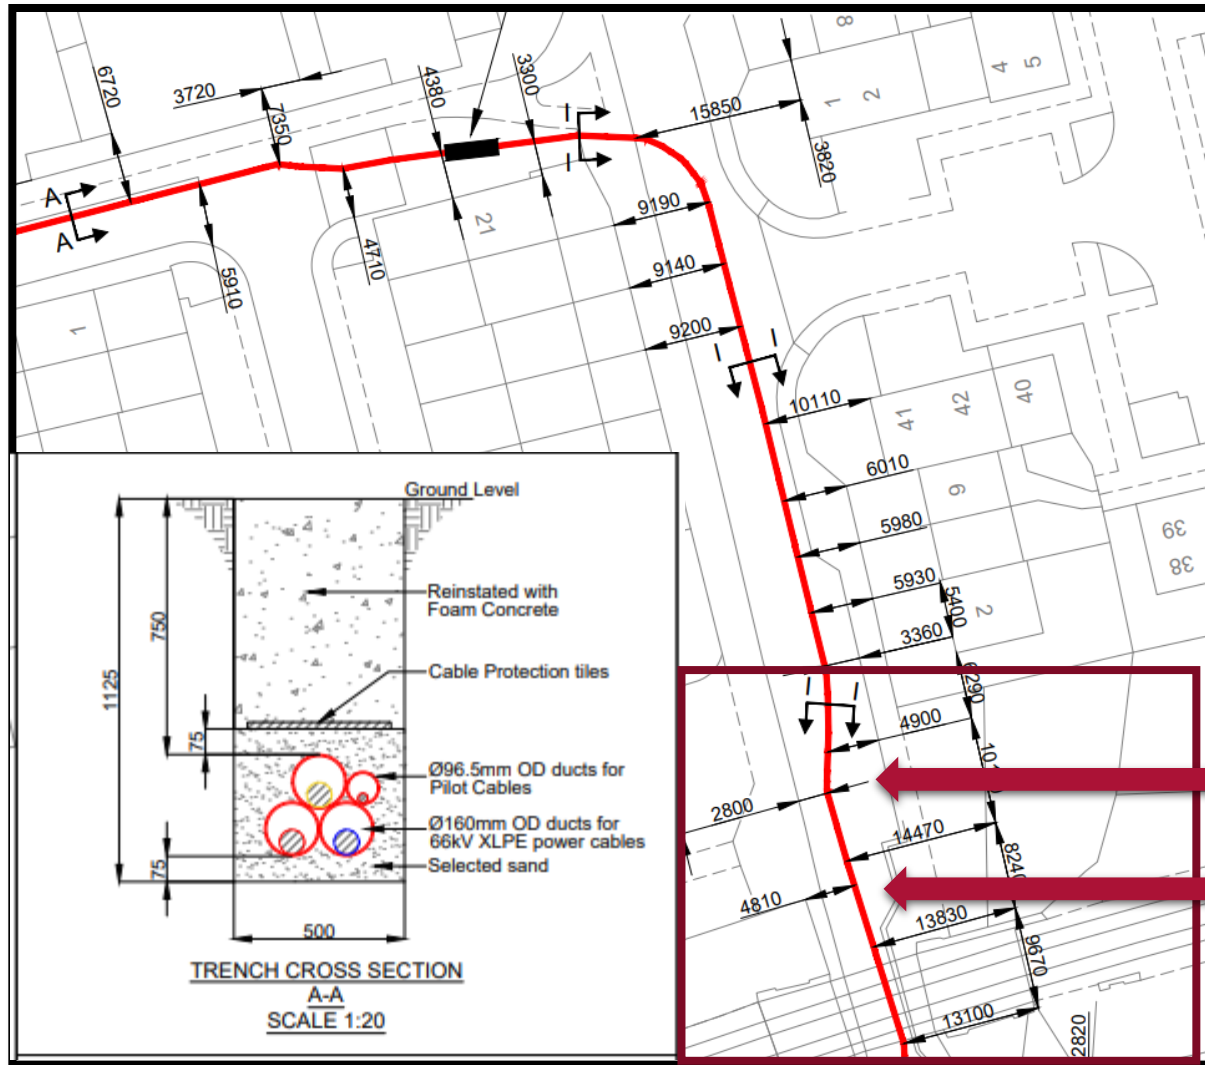

Figure 4. As-laid record for a 66KV XLPE cable
- Using the as-laid from figure 4 as an example, the following images were presented to the contractor to allow for the correction of the as-laid.
Figure 6. A drawing provided to a contractor after their initial as-laid from figure 4 was rejected. The example shows (in green) how they can amend the as-laid with appropriate sight lines and corrected dimensions from those sight lines.